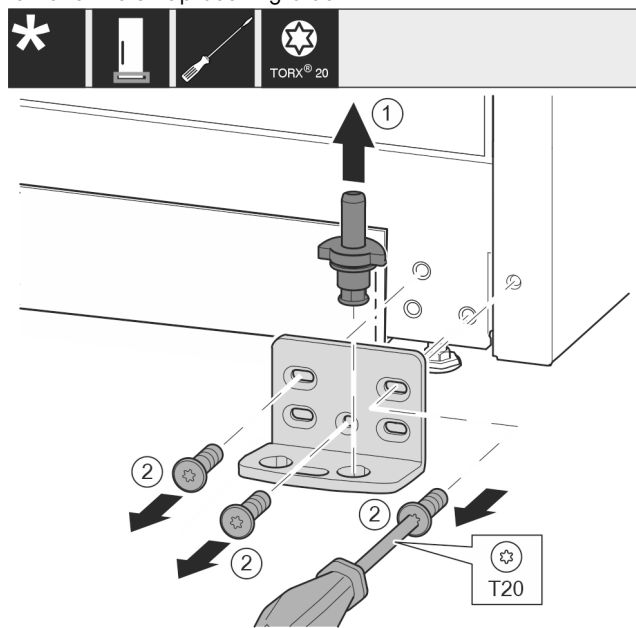

Fig. 18 *
- Pull the bearing bolt Fig. 18 (1) out upwards completely.*
- Use screwdriver to unscrew the screws Fig. 18 (2) and remove the swap bearing block.*